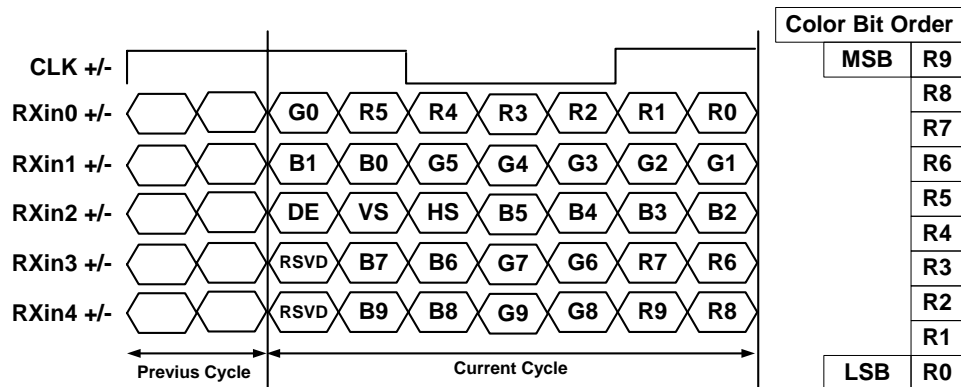

Figure 5-4 - LVDS Data/Color Mapping for Single Channel, 10-bit panel
- Figure 5-4 shows the LVDS Data Color Mapping for a 10-bit WXGA (single channel) panel.